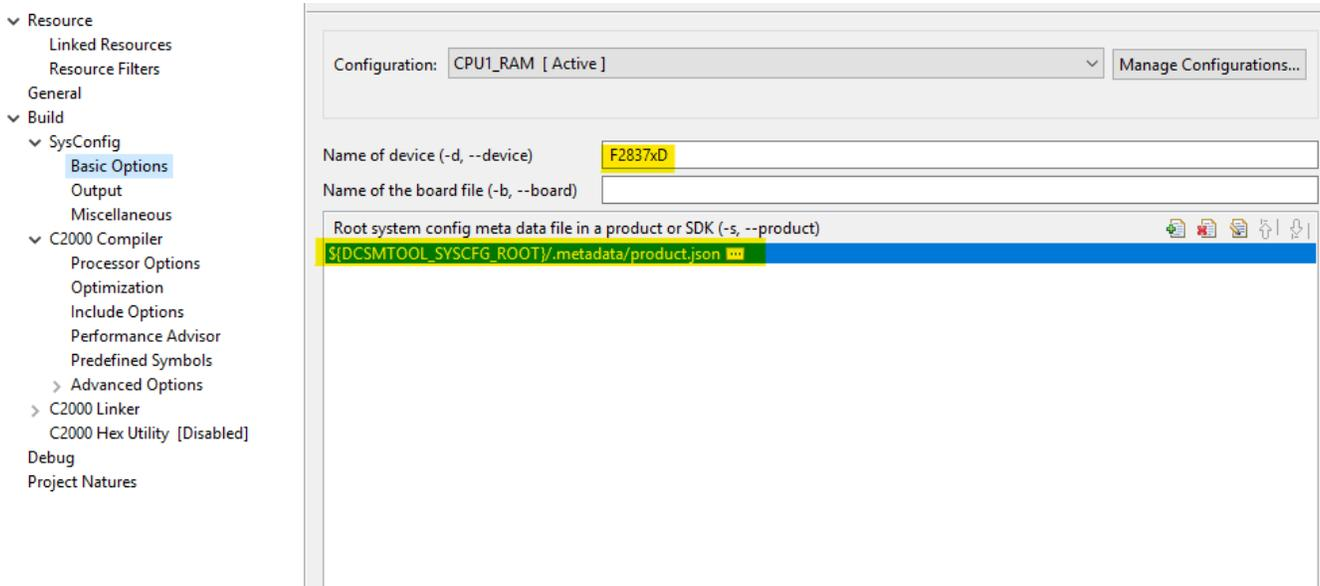

Figure 6-2. SysConfig SDK Path
6. In the **Name of device (-d, --device)** option, enter your device name (**F2838x, F2837xD, F2807x, F2837xS, F28002x, F28004x**), as shown in Figure 6-2.